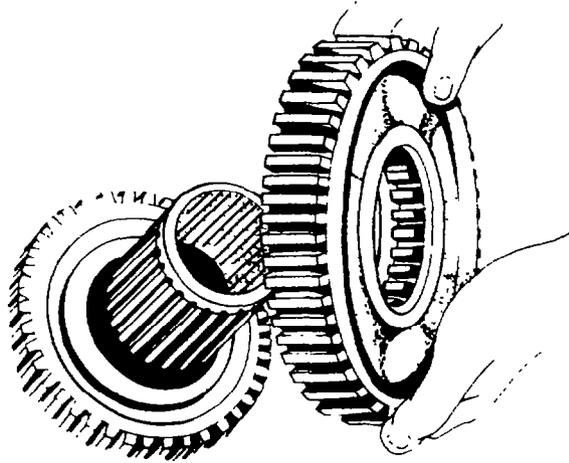

Fig. 199 — Installing First Gear
- g. Install the first gear with the thrust washer towards second gear. Engage first gear with the first gears on the countershafts (see fig. 199).